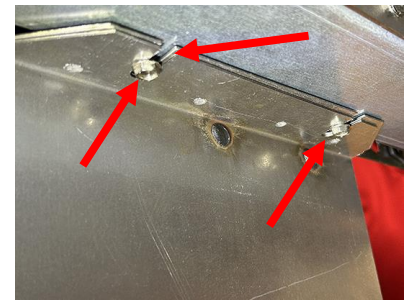

Figure 11
14. Loosen, **DO NOT REMOVE**, the two screws, on the **LEFT SIDE** of the SCB box, with the slots, as viewed from the front of the fryer, that attach the SCB box to the frame (see Figure 11).